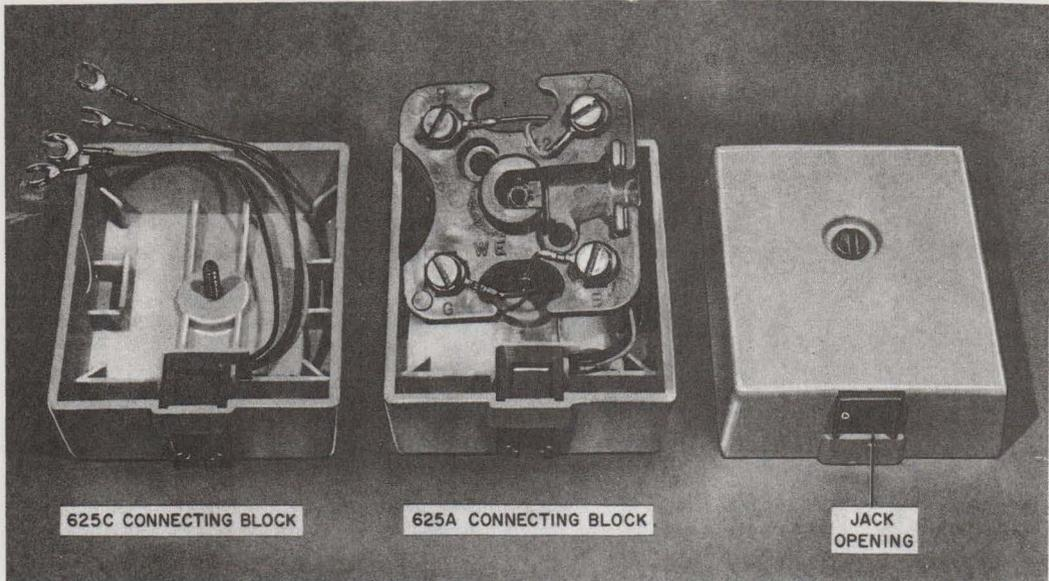

Fig. 1—625A- and 625C-Type Connecting Blocks
- Block, Connecting, 625A (Fig. 1)
- Block, Connecting, 625C (Fig. 1)
2.02 The **625A** connecting block (Fig. 1) is intended for new installations and is surface mounted. It contains a 42A connecting block base assembly which is used to terminate inside wire and spade-tipped leads from the jack in the cover. This connecting block replaces the 42A connecting block and the 549A jack. When mounting the 42A connecting block, leave at least 1/16-inch clearance between the bottom of the cover and the molding, carpet, or floor.
2.04 The **625C** connecting block (Fig. 1) is the same as the 625A connecting block except the 625C does not include the 42A connecting block. The 625C connecting block may be used to convert the 42A connecting block in existing installations to modular installation.
- (a) **Surface-type:** Jack-opening to bottom (Fig. 1). Narrow baseboards will require mounting connecting block opening to left or right side and should be avoided whenever
leads as shown in Fig. 1. Terminals on the connecting block are lettered R, G, Y, and B as shown in Table A. When mounting on masonry walls, a backboard should always be used.
3.04 625C Connecting Block: Remove cover from existing 42A connecting block. Connect leads from miniplug connector in 625C connecting block to terminals on 42A connecting block. Dress leads as shown in Fig. 1; terminate leads of connecting block as shown in Table A. Attach